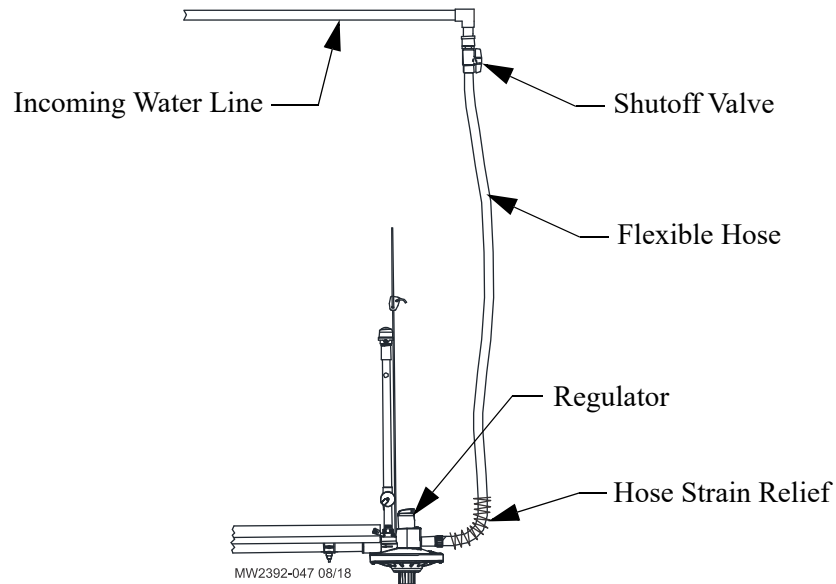

Figure 30. Incoming Water System
1. Install the Water shut-offs in the ceiling. Do not install the shut-offs at the Regulator. Installing the Shut-offs at the regulator adds to much weight at the regulator location. **See Figure 30** below.